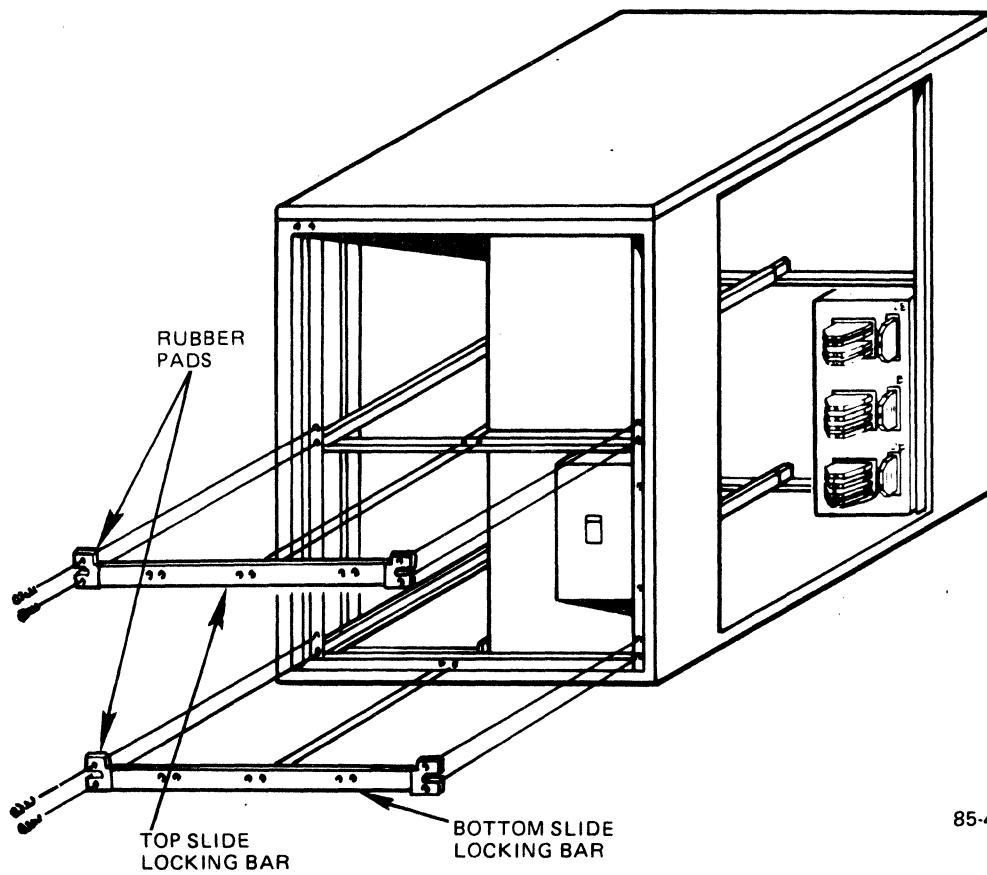

Figure 2-11. Slide Locking Bars
7. At the front of the cabinet, remove the top slide locking bar by removing the six screws (see Figure 2-11). Set them aside for reinstallation in subsection 2.4.2.
15. To install Drive 2 (see Figure 1-3), remove the bottom slide locking bar (see Figure 2-11) and repeat steps 8 through 13.
17. Reinstall the slide locking bar(s) (see Figure 2-11).